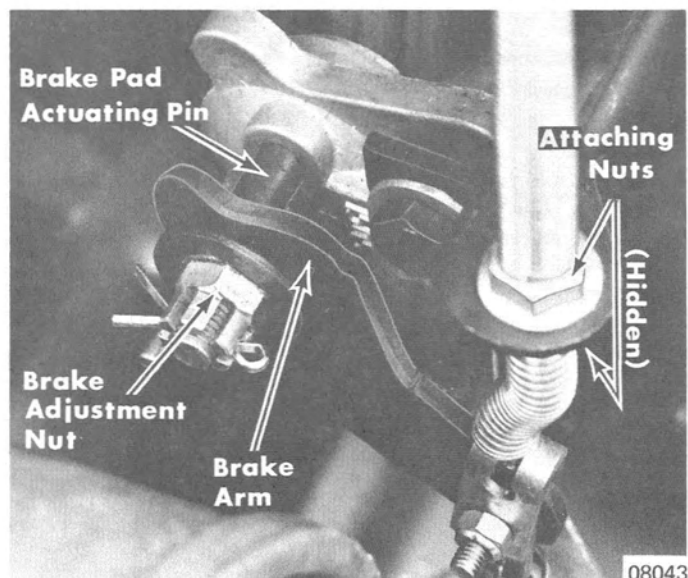
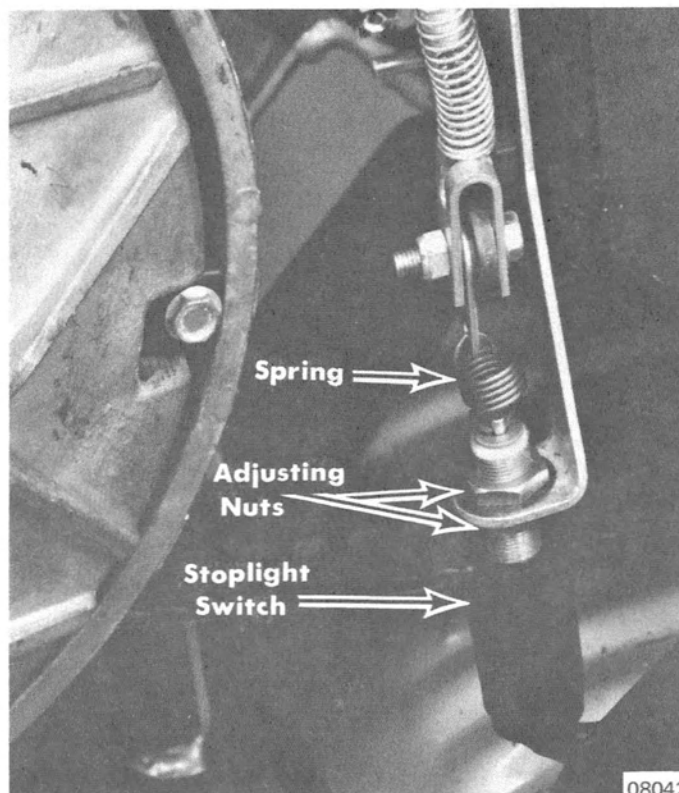

Figure 9. Brake Assembly
Figure 10. Stoplight Switch
1. Check alignment of brake pad actuating pins to brake arm. (Figure 9) Without actuating brake lever, pins must be in center of brake arm depression. Adjust brake cable attaching nuts (Figure 9) as necessary to align actuating pins to brake arm.
2. Remove cotter pin and turn brake adjustment nut (Figure 9) clockwise until brake discs make contact with, and cause drag on, driven sheave.
1. Loosen stoplight switch adjusting nuts. (Figure 10)
2. Adjust switch up or down with adjusting nuts to leave slight tension on spring. (Figure 10)
**NOTE:** On Mark II models with Chassis Serial No. 3787640 and above, Loctite has been applied to adjusting nuts of stoplight switch. Adjust brake cable attaching nuts (Figure 9) to have a slight tension on stoplight switch spring. (Figure 10)